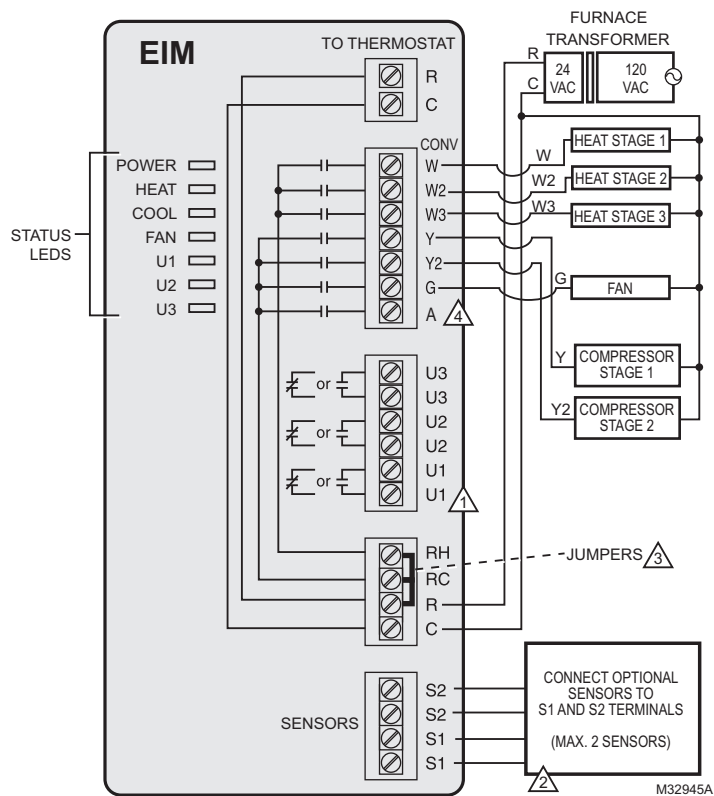

Fig. 208. EIM wiring guide — conventional systems.
All wiring must comply with local electrical codes and ordinances. See Fig. 208–216.
6. See Fig. 208–216 for typical wiring hookups.